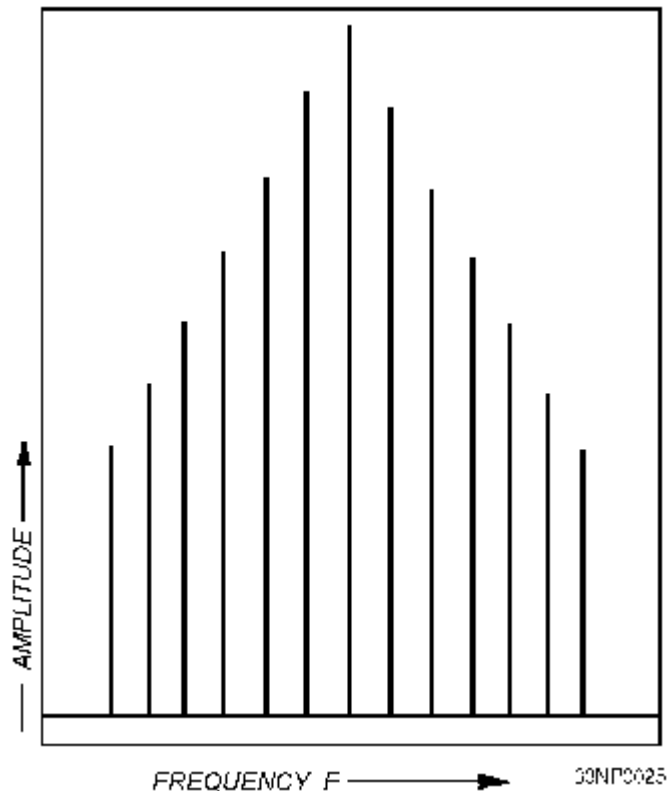

Figure 2-14.—Spectrum analyzer pattern.
The SPECTRUM ANALYZER is a device that sweeps over a band of frequencies to determine (1) what frequencies are being produced by a specific circuit under test and (2) the amplitude of each frequency component. To accomplish this, the spectrum analyzer first presents a pattern on a display. Then the relative amplitudes of the various frequencies of the spectrum of the pattern are plotted (see figure 2-14). On the vertical, or Y axis, the **amplitudes** are plotted; on the horizontal, or X axis, the frequencies (time base) are plotted. The overall pattern of this display indicates the proportion of power present at the various frequencies within the SPECTRUM (fundamental frequency with sideband frequencies).